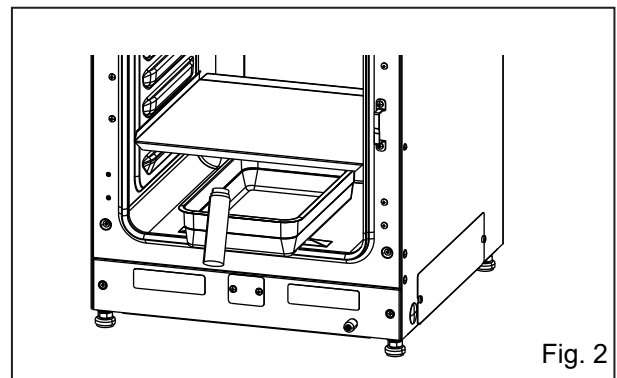

Fig. 2
4. Return the humidifying pan to the chamber and pour sterile distilled water (approx. 1.5 L, preheated to 37 °C) (Fig. 2).